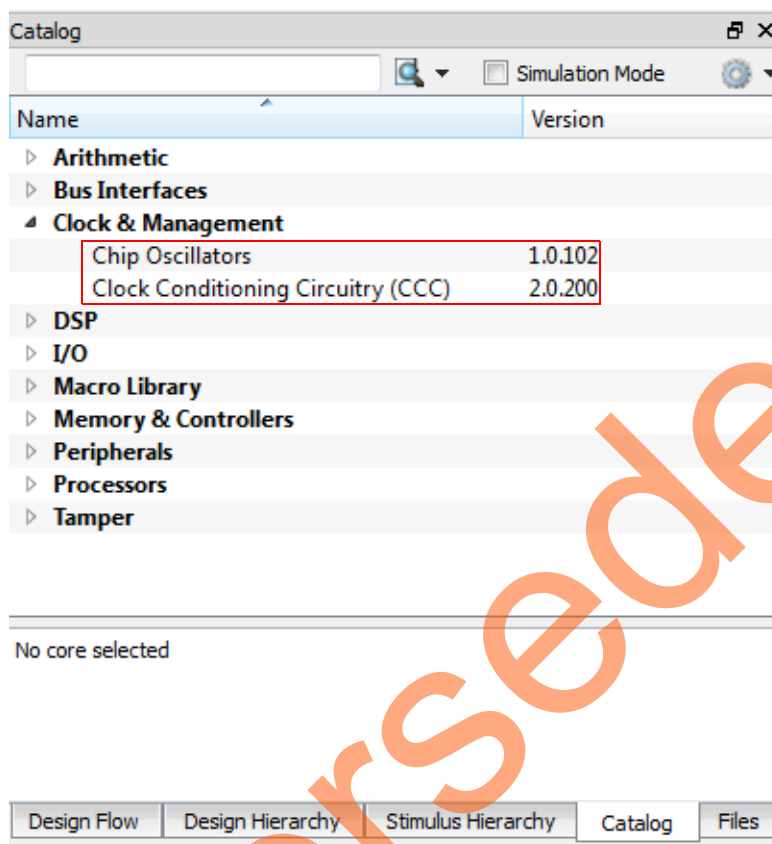

Figure 6 • Clock & Management Category of Libero SoC IP Catalog
9. Double-click on the FCCC_0 component in the SmartDesign canvas and open the FAB CCC Configurator window as shown in Figure 6.
10. Click on **Basic** tab in the **FAB CCC Configurator** window (see Figure 6). Enter the following information: